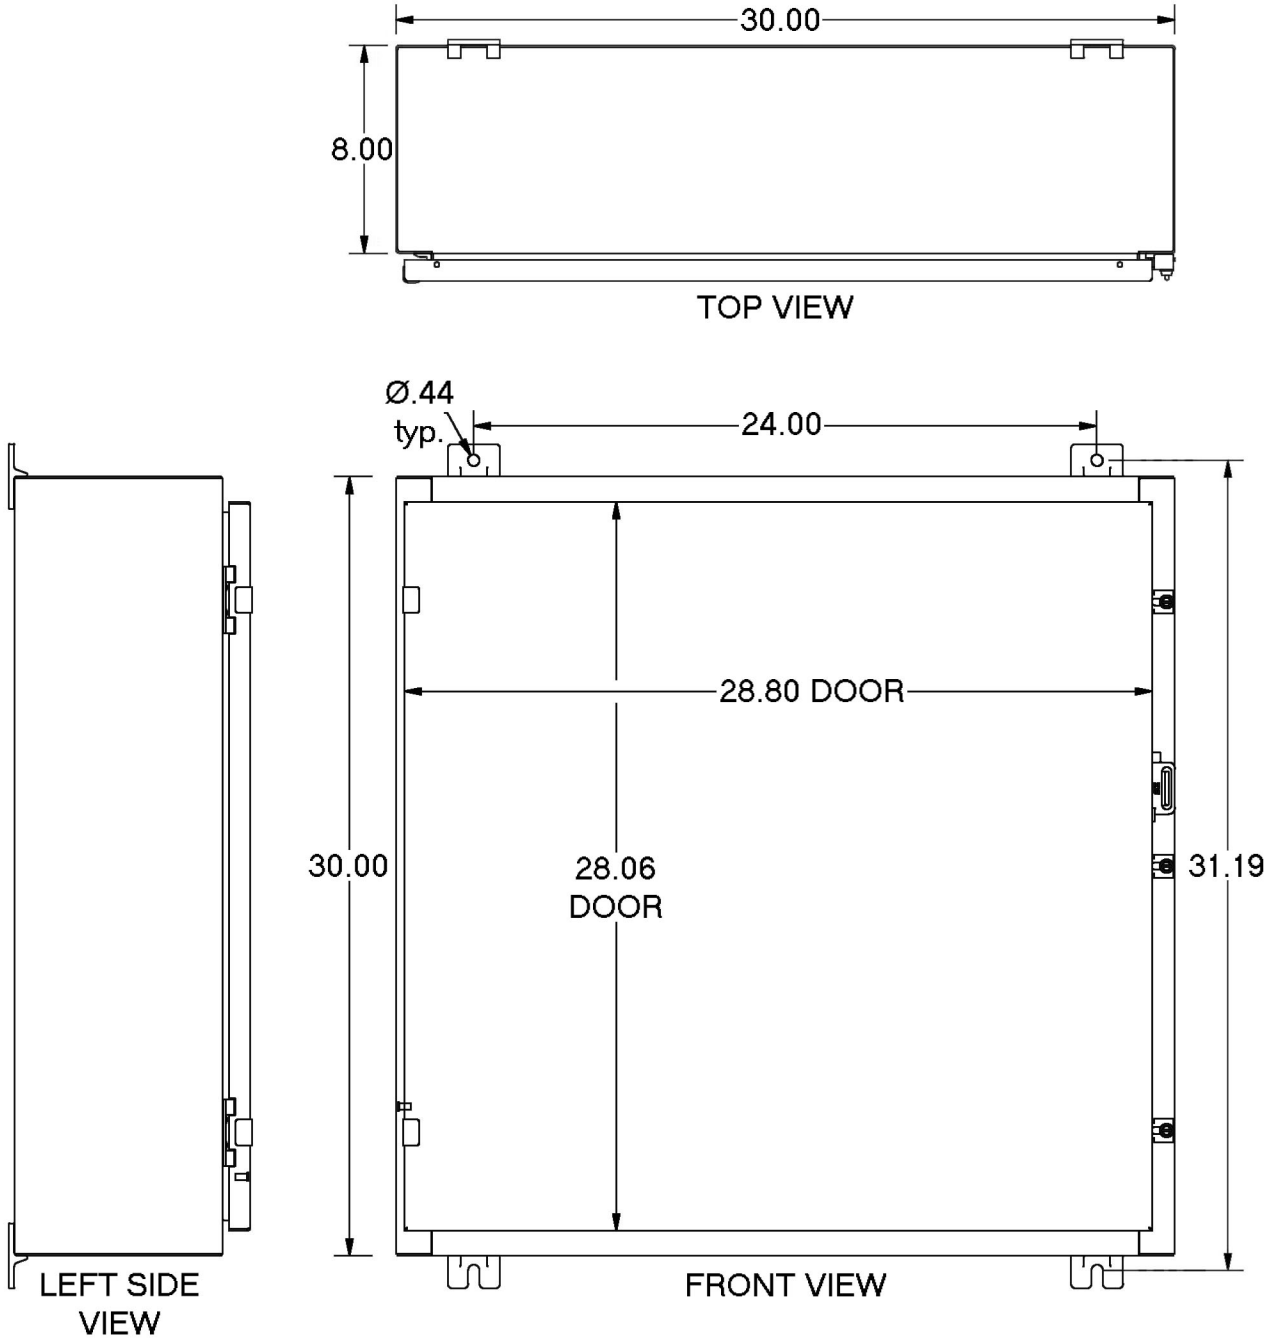

Figure 1 - Dimensional drawing with mounting hole locations
- Figure 1 - Dimensional drawing with mounting hole locations7
The PCS may be mounted to a wall using customer supplied fasteners. Use the dimensional drawing (Figure 1) for mounting hole locations.